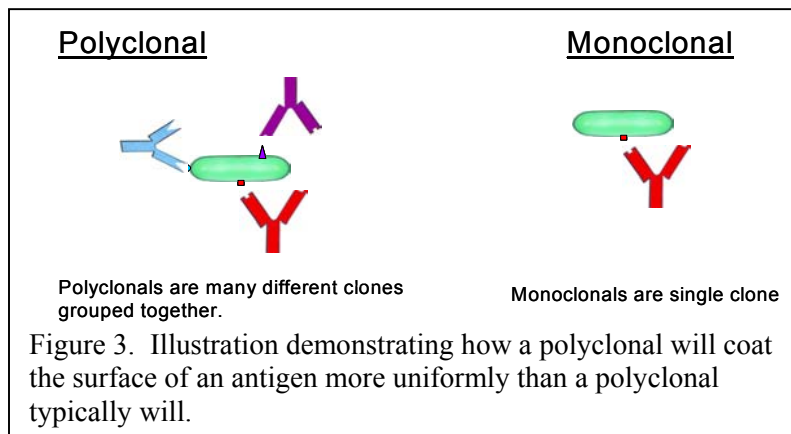

Figure 3. Illustration demonstrating how a polyclonal will coat the surface of an antigen more uniformly than a monoclonal typically will.
- polyclonal antibodies (PAB's) - Polyclonals represent a population of many antibodies which bind to numerous different antigens (epitopes) (Figure 3).
- monoclonal antibodies (MAB's) - Monoclonals represent a single type of antibody which bind to one specific antigen (epitope) (Figure 3).
Polyclonal antibodies are typically used for immunoassays because of their ease of production and their superior sensitivity. What makes polyclonal antibody assays more sensitive is that they can cover the surface of a complex antigen such as a microorganism more uniformly thus improving the detection capability (Figure 3). Monoclonals represent a single type of antibody which bind to one specific epitope. A high degree of sensitivity and specificity against a particular biological agent can be achieved by careful screening and selection of a monoclonal antibody.